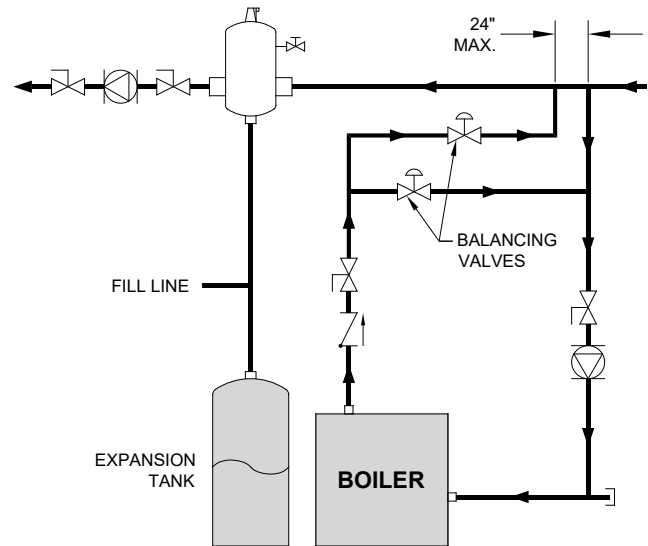
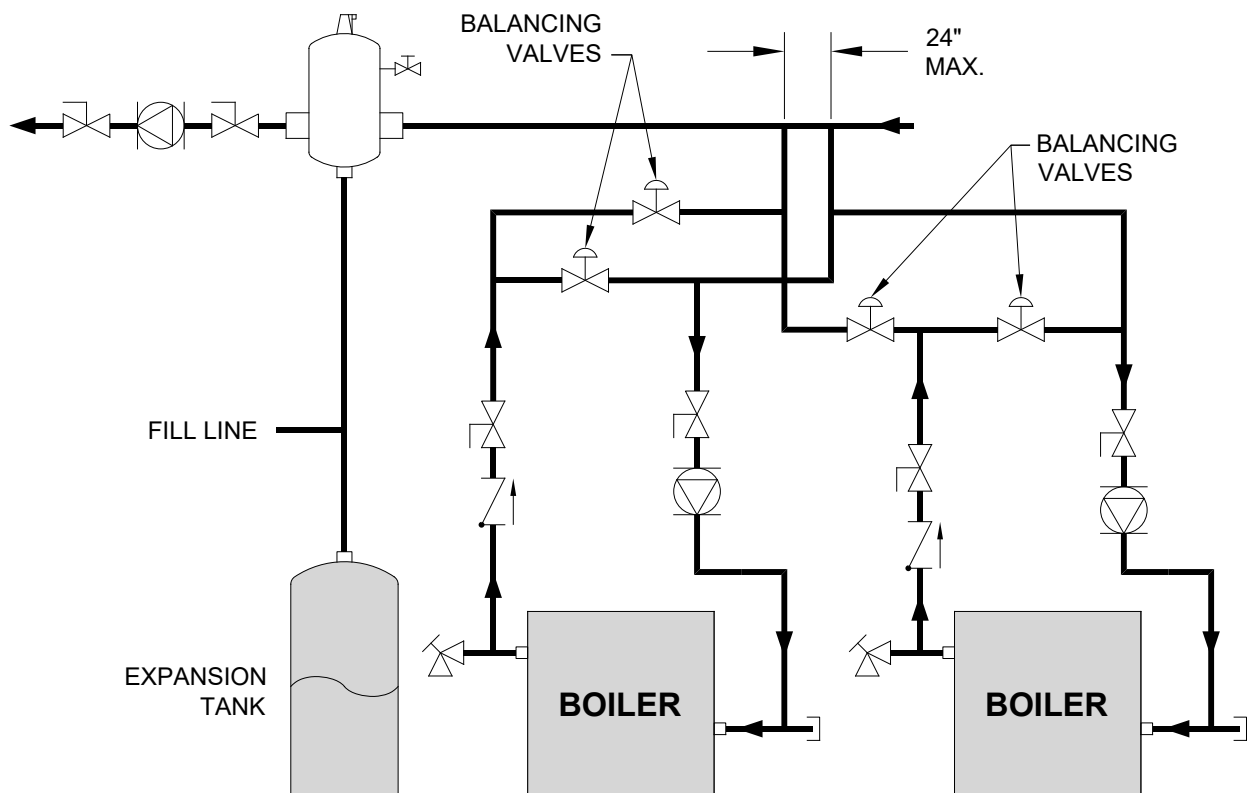
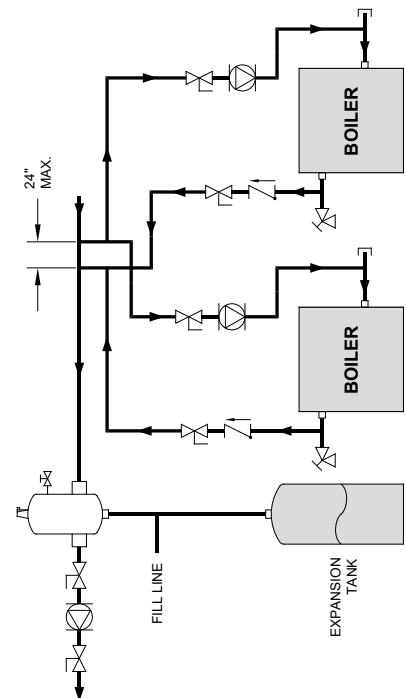

Figure 3.3: Fixed By-Pass Piping, Single Boiler
Figure 3.4: Fixed By-Pass Piping, Multiple Boilers
Figure 3.8: Piping for Variable Low Temperature Systems, Multiple Boilers
For systems with a relatively constant low operating temperature (such as heat pump systems), you can pipe a fixed flow by-pass arrangement as shown in Figure 3.3. This piping will not work for variable low temperature systems such as outdoor reset systems or primary/secondary systems with a large primary circuit temperature drop. See Figure 3.4 for multiple boilers.
For flow rates higher than given in Table 3.1, provide bypass piping around the boiler to limit the boiler flow to that given in the table or pipe the boiler in a secondary loop with its own pump as shown in Figure 3.3.
1. For multiple boiler installations, piping the boilers in a secondary loop is recommended. Each boiler should be provided with its own pump and piped off of the secondary loop header. See Figure 3.7 for systems with return temperature above 130°F on gas boilers or 150°F on oil boilers. For low temperature systems, see Figure 3.4 (constant low temperature systems) or Figure 3.8 (variable low temperature systems).